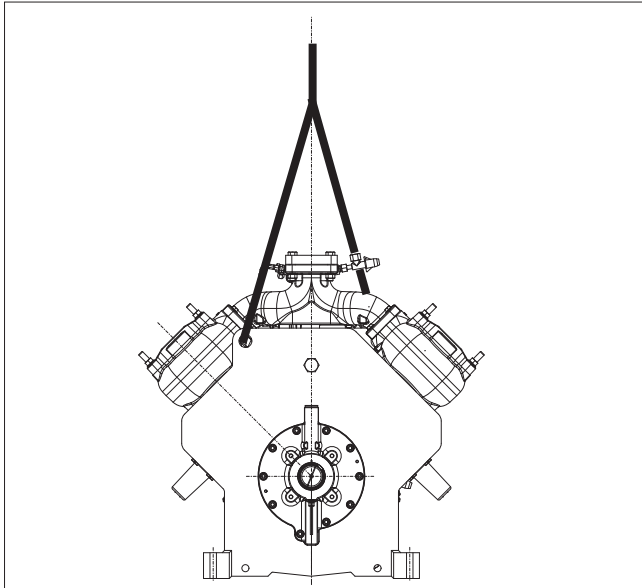

Fig. 1.1-2 Hoisting angle
(see "Product Information (ED)"), prior to moving a bare compressor or loose component. Use the hoisting eyes only, DO NOT sling from other compressor parts (see Fig. 1.1-2).